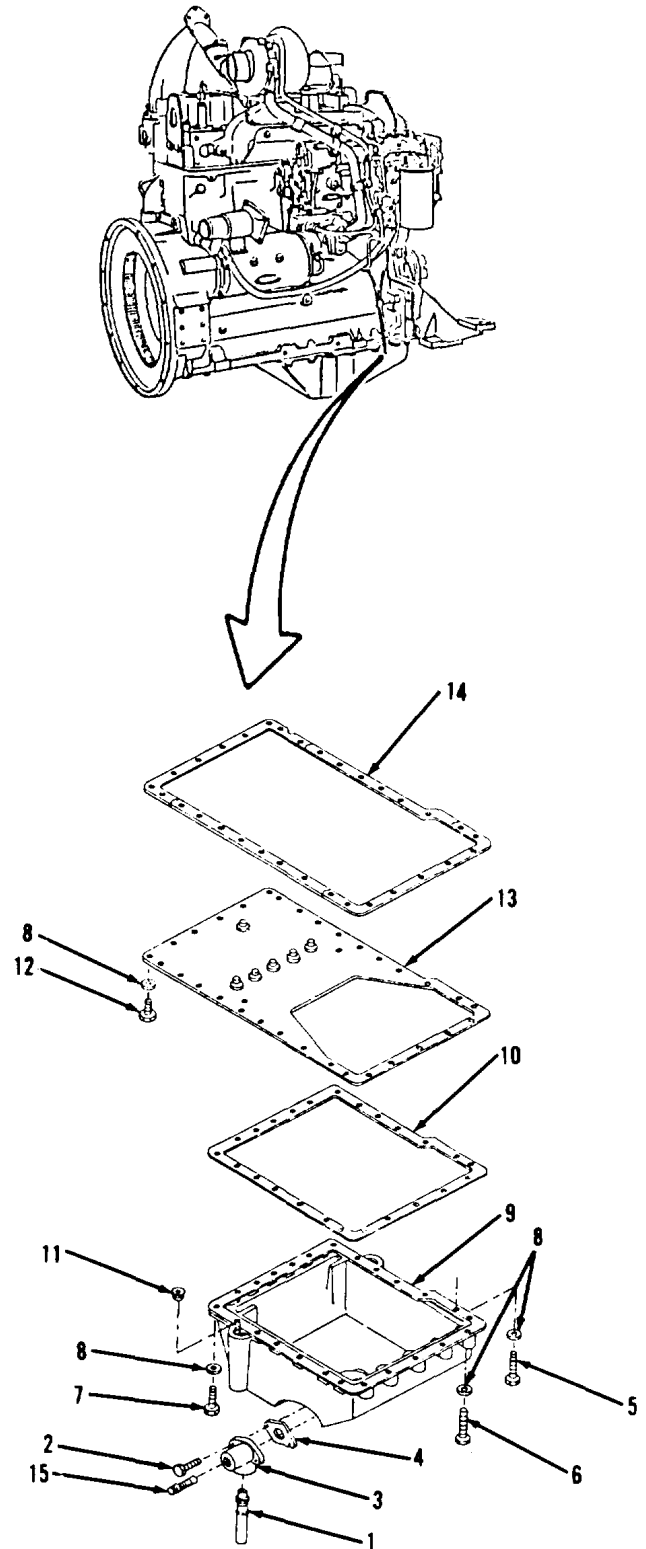

Figure 3-70.
2. Remove hose assembly (1, Figure 3-70) from bottom of engine.
3. Remove two bolts (2), adapter (3) and gasket (4). Discard gasket (4). Remove all gasket material from mounting surfaces.
4. Support oil pan (9).
5. Remove bolt (5), six bolts (6), 17 bolts (7) and 24 of 39 washers (8).
6. Remove oil pan (9) and gasket (10). Discard gasket (10). Remove all gasket material from mounting surfaces.
7. Loosen oil gage bolt (11) from oil pan (9).
8. Remove 15 bolts (12), 15 of 39 washers (8), oil pan plate (13) and gasket (14). Discard gasket (14). Remove all gasket material from mounting surfaces.
10. Remove drain plug (15) from adapter (3).